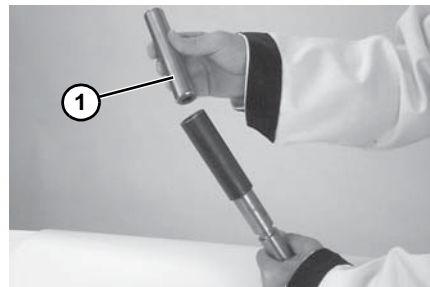

Figure 42
5. Place open end of pusher (**Figure 42, item 1**) into sleeve.